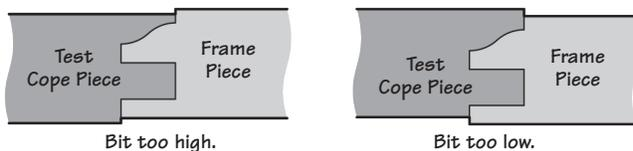

Figure 9: Checking the bit height.
8. Once the fit has been perfected, adjust the bit height using one of the previously cut rails or stiles as a guide (see **Figure 9**).